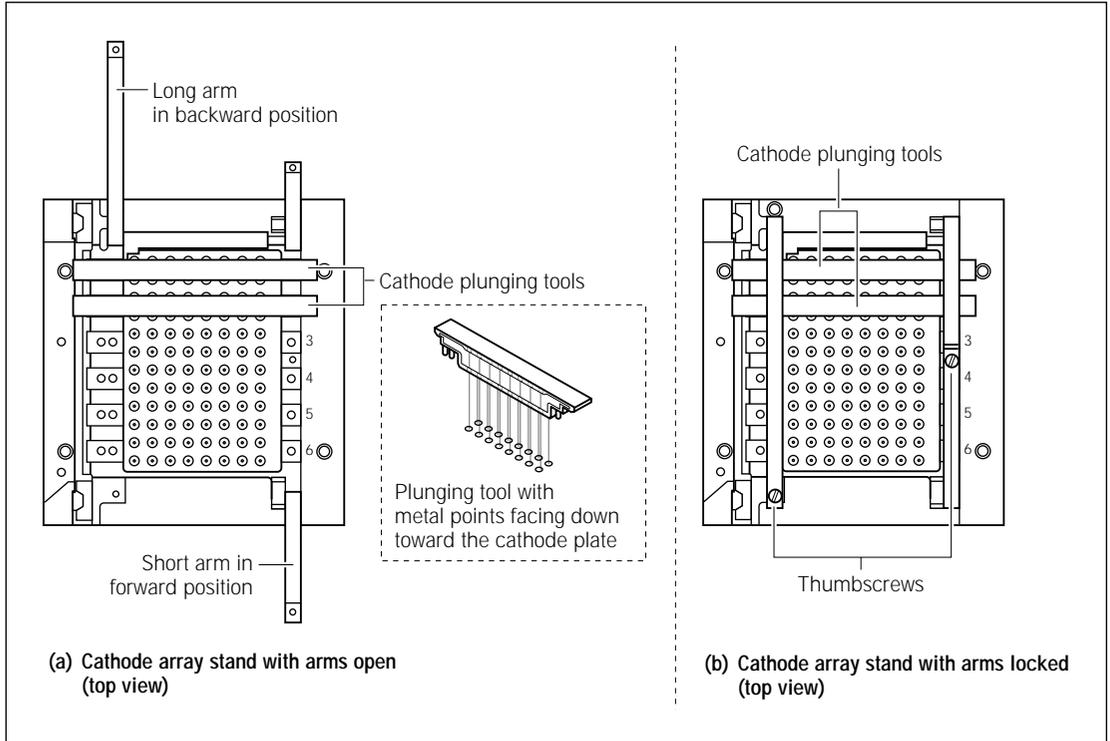

Figure 4-12. Installing or removing the cathode plunging tool (MegaBACE 500 and flexible MegaBACE 1000 instruments only).
2. Gently lift the left and right ends of the bar of the cathode plunging tool to release it from the cathode array stand. Lift the cathode plunging tool out of the array stand (figure 4-12).
1. In the cathode array stand, locate the empty position where you want to install the cathode plunging tool (figure 4-12).